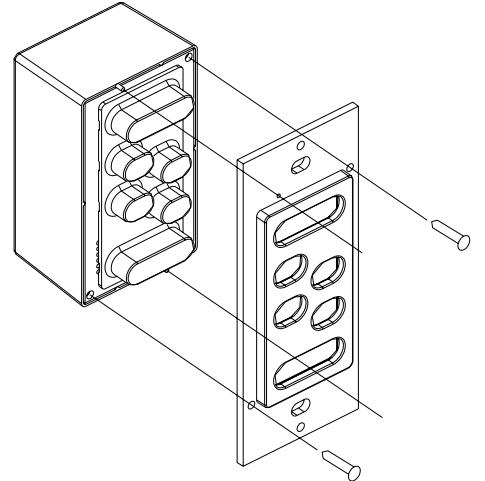

Figure 2 – Changing Switch Color
1. The bezel attaches to the HAI UPB™ 6-Button Room Controller with two small Philips head screws: one on the upper-right corner and one on the lower-left corner (Figure 2).